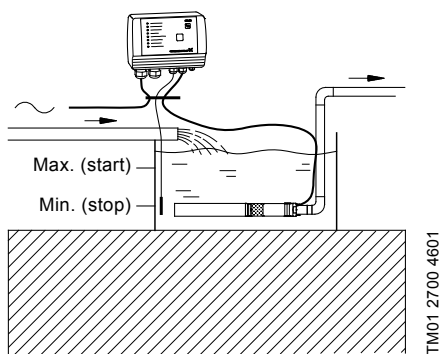

Fig. 22
- Emptying means that the pump must start at a given maximum water level and stop at a given minimum water level. See fig. 22.